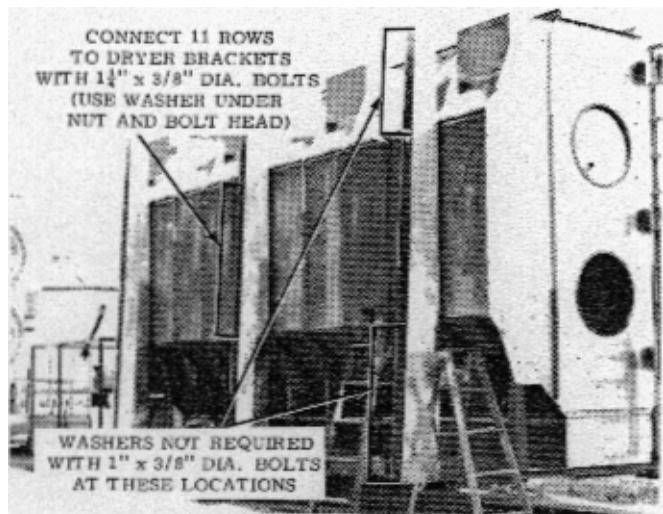

FIG. 5 TYPICAL VIEW OF INTERMEDIATE BUTTRESSES INSTALLED ONTO MIDDLE MODULE
- C. Loosely connect the intermediate buttress columns to the buttress brackets on dryer as shown in Fig. 5.